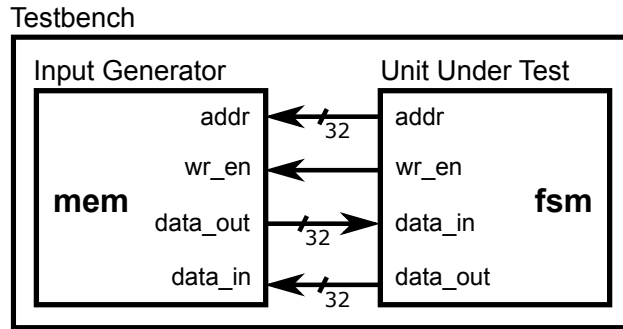

Figure 1: Testbench block diagram.
Automated testing is achieved by using memory to generate test inputs for the system. Figure 1 shows an example block diagram of a finite state machine (FSM), which serves as the unit under test (UUT), interfaced to a memory model for testing purposes. A particular set of inputs is associated with an address, which is provided by the testbench or, in this case, the UUT itself.
2. Modify the testbench again to implement the test environment shown in Figure 1.